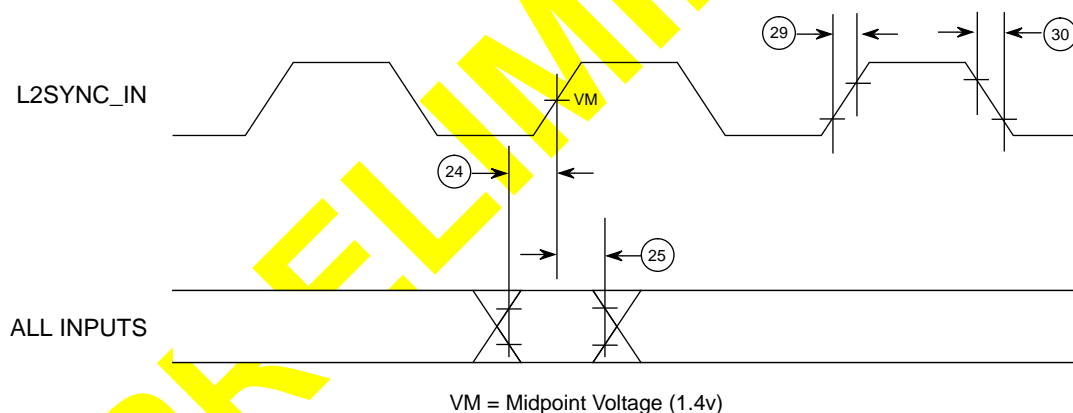

Figure 7. L2 Bus Input Timing Diagrams
1. All input specifications are measured from the TTL level (0.8 V or 2.0V) of the signal in question to the midpoint voltage of the rising edge of the input L2SYNC_IN. Input timings are measured at the pins (see Figure 7).
Figure 7 shows the L2 bus input timing diagrams for the 750.